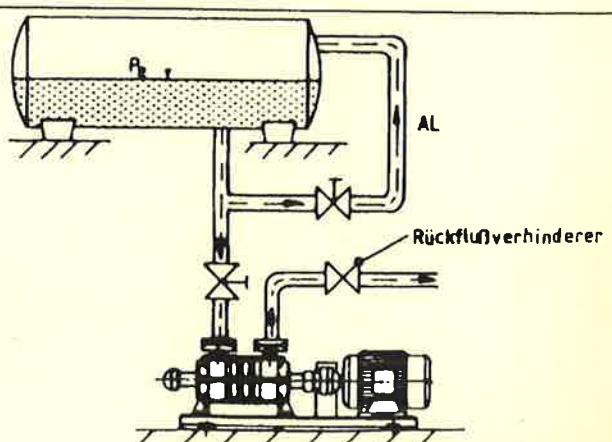

Fig. 5.2
The side channel pump is able to carry air or gases and to evacuate a suction pipe. The pumps must be filled with liquid. The suction capacity is restricted to a vacuummetric suction lift of approximately 7 m (for water at 20° C) and decreases as the wear increases. The priming time should be limited to 1 to 2 minutes at most, since the priming stagnates when the medium in the pump heats up. A non-return valve should be fitted in order to avoid having to lift out the pump after switching off (see fig. 5.2).
For inlet operation, ensure that the liquid level remains at least 0.5 m above the pipe socket. For supplying liquid from a tank under vacuum, we recommend installing a compensation line (CL) (see Fig. 5.2).